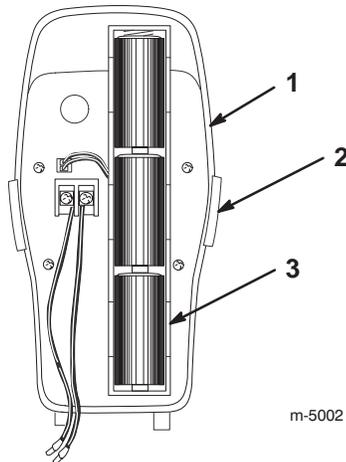

Figure 6
1. Open the perimeter switch case by squeezing the front part of the tabs to the case (Fig. 6).
2. Insert three 1.5V C-cell batteries (Fig. 6).